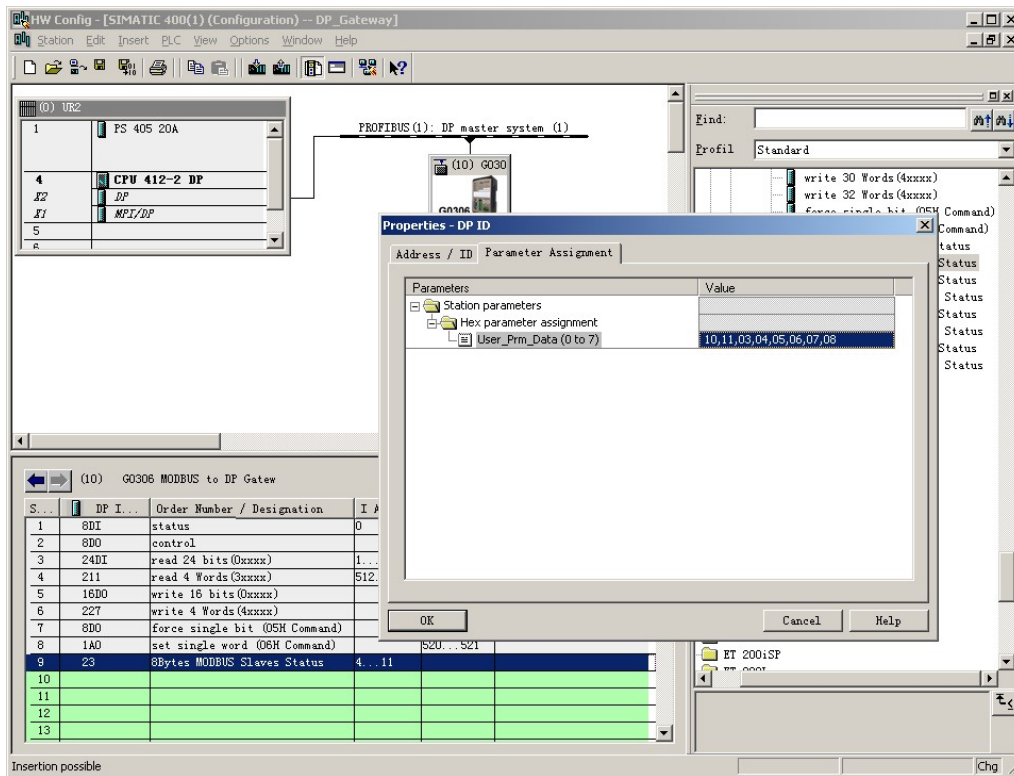

Figure 39 Configure the slave address to be monitored
**c) Configure the user parameters of the "8Bytes MODBUS Slaves Status" module, as shown in Figure 39:**
As shown in Figure 39, each device corresponds to one byte of module user parameters. In the previous example, a total of two slave stations 10 and 11 are configured, so these two addresses are filled in the module user parameters.